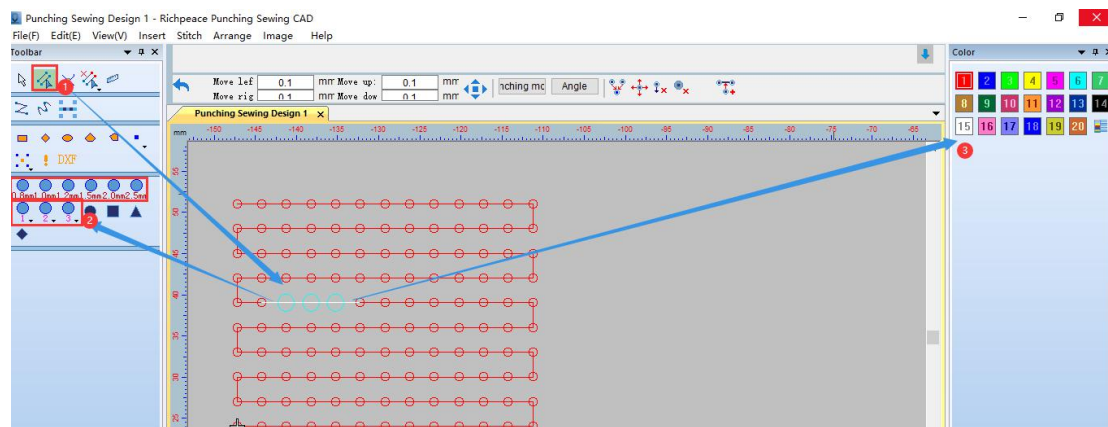

图 2 Picture2
2. Click  the left mouse button to edit stitch and select the hole whose size needs to be modified. After selecting it, click the punching size in the toolbar on the left to modify it, as shown in Figure 2. Change the color of the hole and click the color toolbar on the right to change the color.